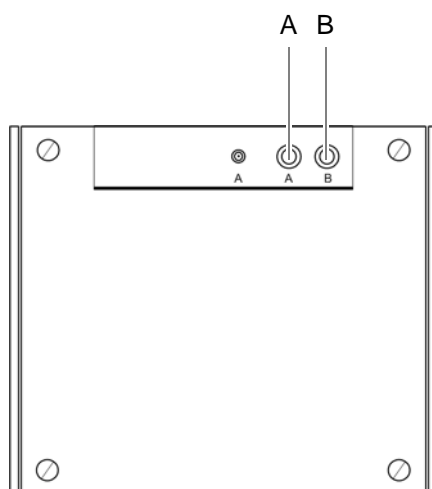

Figure 6.4 Antenna connectors
- ➔ Ensure that the original antenna is connected to the antenna connector above the equipment cabinet, refer to Figure 6.4.
3. Remove the antenna cable from the corresponding antenna connector, refer to Figure 6.4.